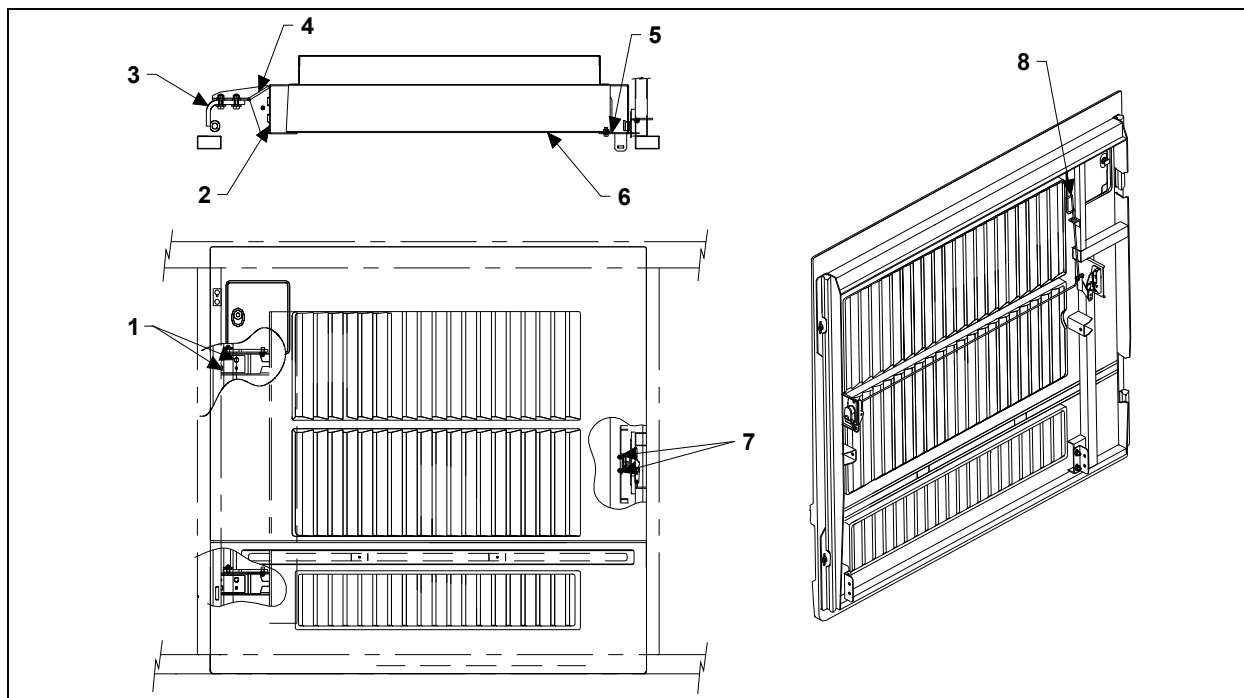

FIGURE 67: CONDENSER DOOR
2. Loosen the nuts (1, Figure 67) holding the hinge (3, Figure 67) to hinge attachment (4, Figure 67). Loosening nuts (1, Figure 67) allows the condenser assembly to be shifted "LEFT or RIGHT" and "UP or DOWN".
5. Loosen bracket nuts holding the panel to condenser. Panel (6, Figure 67) may be shifted "IN or OUT", "LEFT or RIGHT" and "UP or DOWN".
6. Adjust condenser panel at brackets (2, Figure 67) and (5, Figure 67).